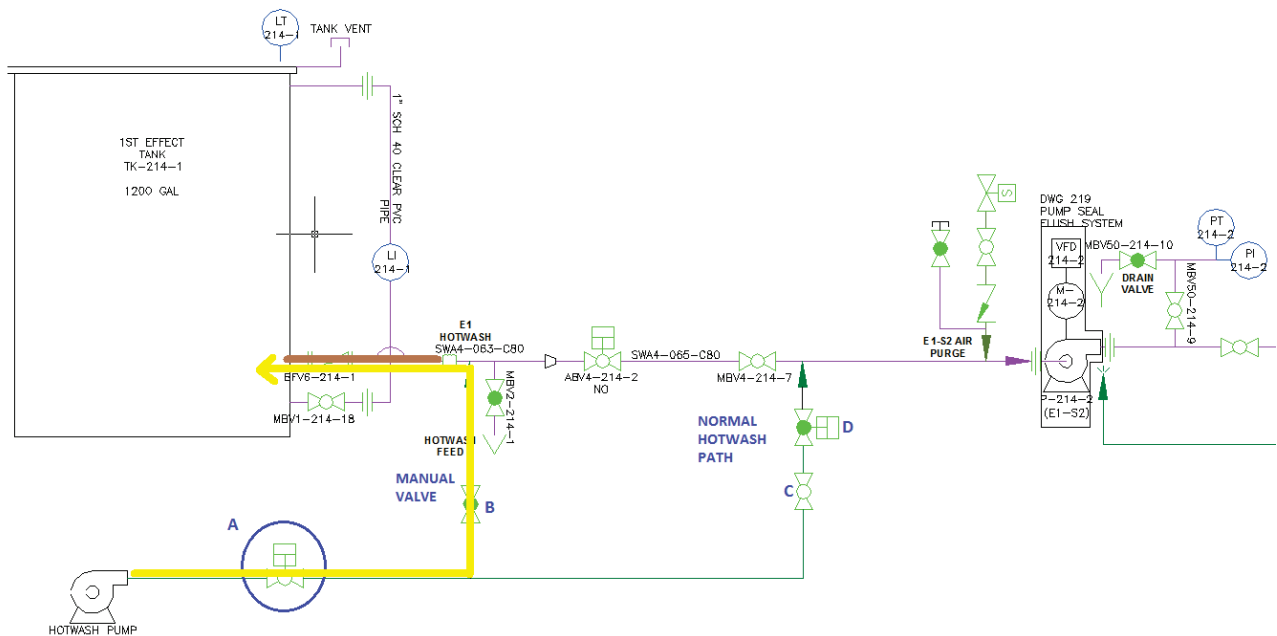

Figure B2: Manual wash flow path
- d. Open MBV2-2X4-19 manual hotwash valve, shown as “B” in figure B2.